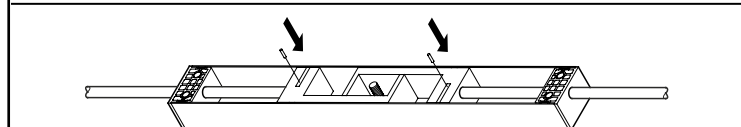

Figure 6b
2. Install pins by tapping into place. Ensure that pins are flush or underflush (**Figure 6b**).